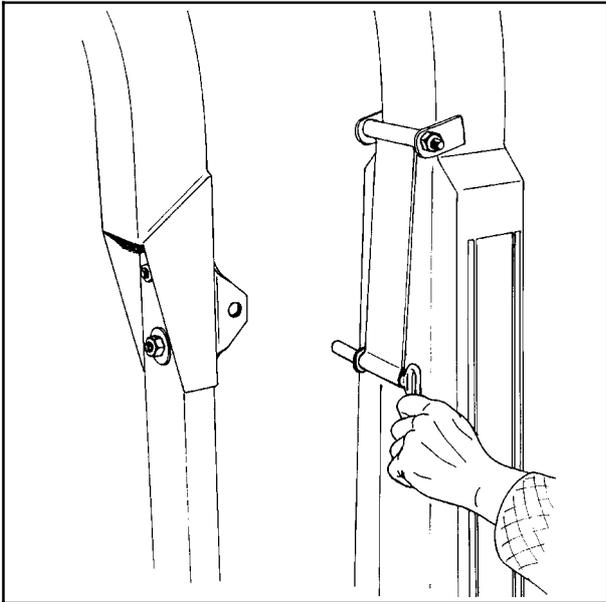

Fig. 4-13
6. Remove the locking bolt that holds the wrapping arm to the frame during transport.(Fig. 4-13)